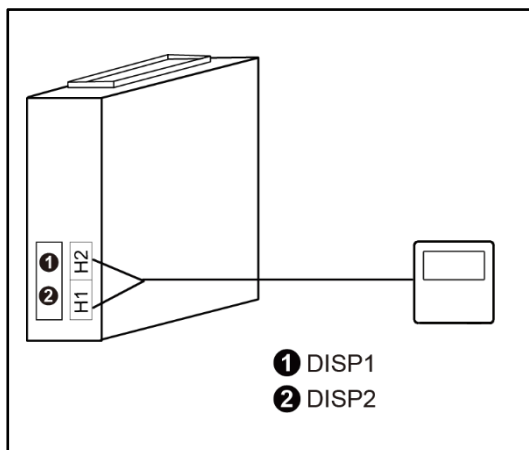

Fig. 5.4.1
1) Fig. 5.4.1 shows the installation of the wired controller.